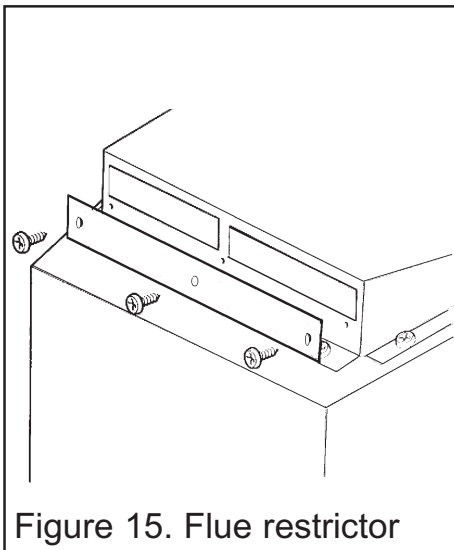

Figure 15. Flue restrictor
**6.** This appliance is supplied with a flue restrictor for use where the flue draught is excessive. Generally we recommend the restrictor is NOT fitted where a precast flue, metal flue box or a flue liner is used, however, certain flues may work sufficiently to warrant its use. There may however, be circumstances where fitting the restrictor causes the fire to fail the spillage test. In such cases the restrictor will have to be removed. After removal conduct the spillage check again. The restrictor is packed loose with the appliance and is fixed with three screws (See figure 15).